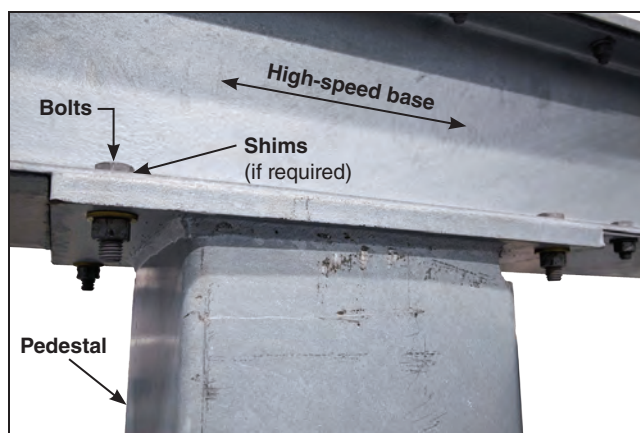

Figure 7. Shim the high-speed base for gaps of more than $\frac{1}{8}$ -inch (3.18 mm).
STEP 5. Securely bolt the high-speed base to the mounting pedestals. If necessary, install shims between the high-speed base and the pedestals to compensate for any gaps greater than $\frac{1}{8}$ -inch between the mating surfaces. See Figure 7.